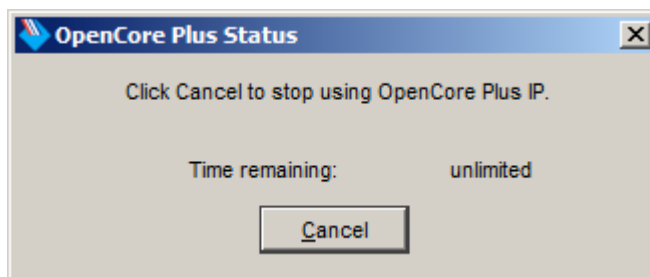

Figure 4-6 Warning message of OpenCore Plus IP
- Since the reference design uses evaluation IP of 10G EMAC, warning message will be displayed after programming completely as shown in Figure 4-6. Reference design can run about 20 mins.